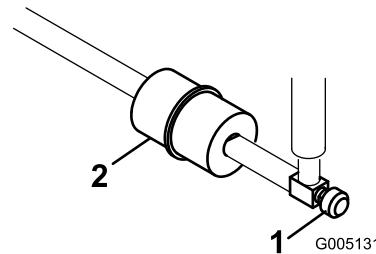

Figure 52
An in-line filter is incorporated into the fuel line between the fuel tank and carburetor (Figure 52). Replace the filter every 800 hours or sooner if the fuel flow is restricted. Be sure the arrow on the filter is pointing away from the fuel tank.
1. Close the fuel shut off valve, loosen the hose clamp on the carburetor side of filter, and remove the fuel line from the filter (Figure 52).
2. Place a drain pan under the filter, loosen the remaining hose clamp and remove the filter (Figure 52).